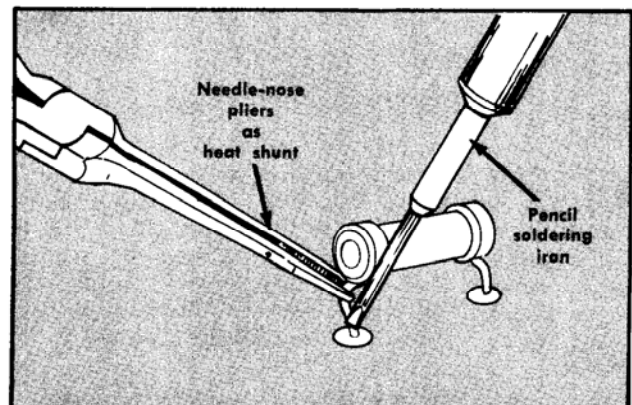

Fig. 4-4. Removing or replacing component on circuit board.
1. Grip the component lead with long-nose pliers. Touch the soldering iron tip to the lead at the solder connection. Do not lay the iron directly on the board as it may damage the board. See Fig. 4-4.